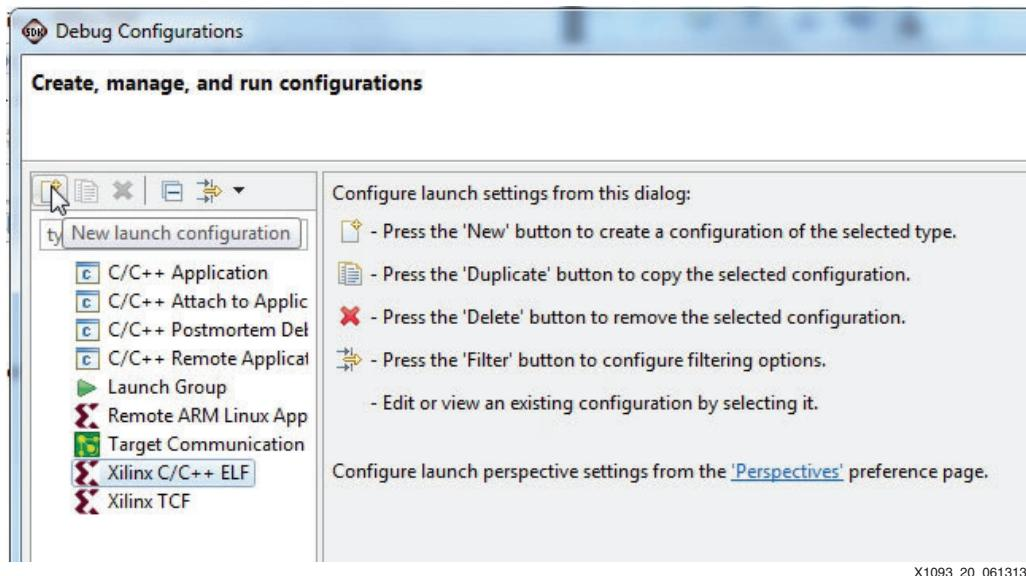

Figure 20: CPU0 Debug Configurations
2. Select **Xilinx C/C++ ELF**, then click the **New launch configuration** icon at the top left, as shown in Figure 20.